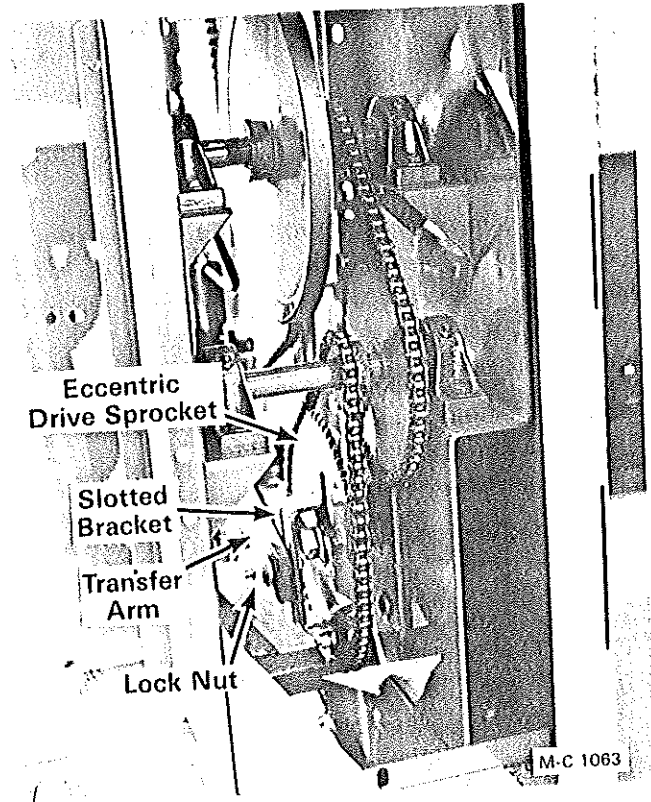

Figure 21
6. The transfer arm is anchored to a slotted bracket on the eccentric drive sprocket, see Figure 21. Loosen the locknut and adjust the transfer arm as follows: